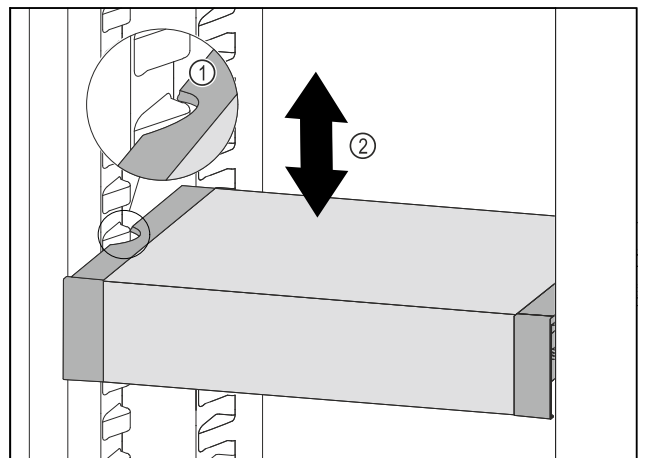

Fig. 116
- ▶ Pull VarioSafe forwards until the recesses in the side of the VarioSafe are at the level of the support rib in the refrigerator compartment. Fig. 116 (1)
- ▶ Move VarioSafe up or down in the refrigerator compartment until the desired height is reached. *Fig. 116 (2)*